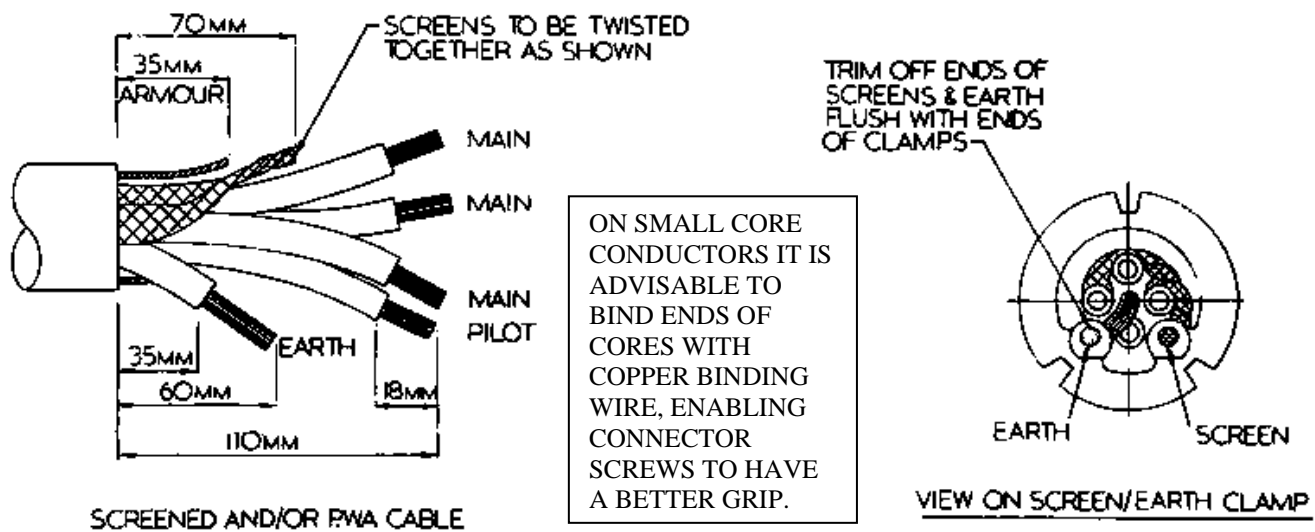

Fig.2
2. The cable should now be stripped in accordance with the appropriate diagram (Fig.2). Baring of the power and pilot cores should be left until stage 6. The screens should be carefully twisted together ensuring that the maximum screen covering is maintained between the cores.